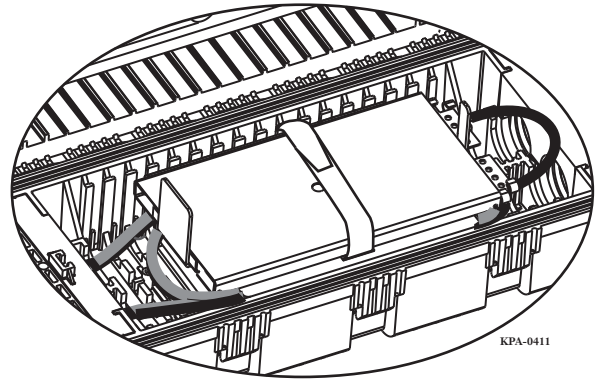

Figure 37
- Step 4:** Rotate the tray stacker down. Secure the tray(s) in the stacker with the hook-and-loop strap provided (Figure 37).